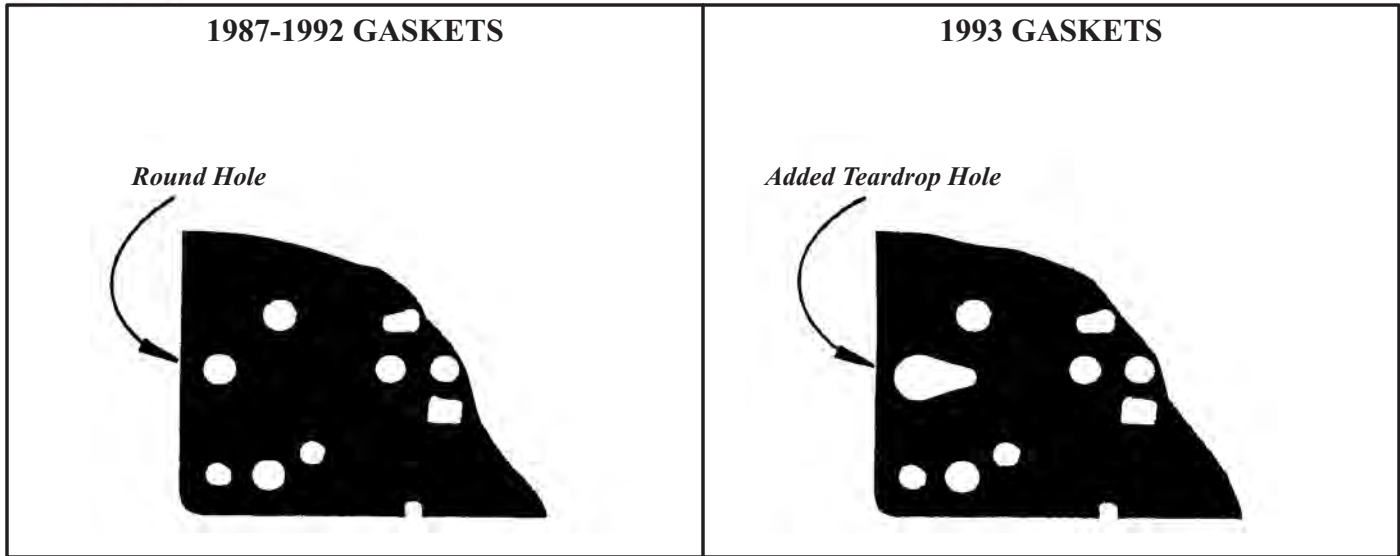

Figure 73
- (4) VALVE BODY GASKETS - Both valve body gaskets now have a "Tear-drop" hole at the new checkball and orifice location in the spacer plate, instead of the previous round hole, as shown in Figure 73.